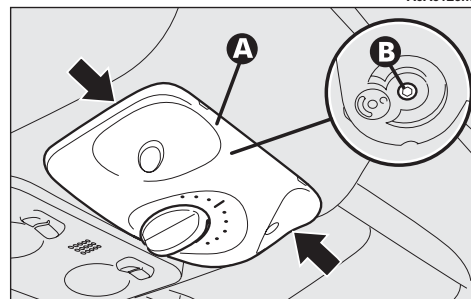

fig. 125
- apply leverage in the points shown by the arrows and remove the plate (**A**-fig. 125);